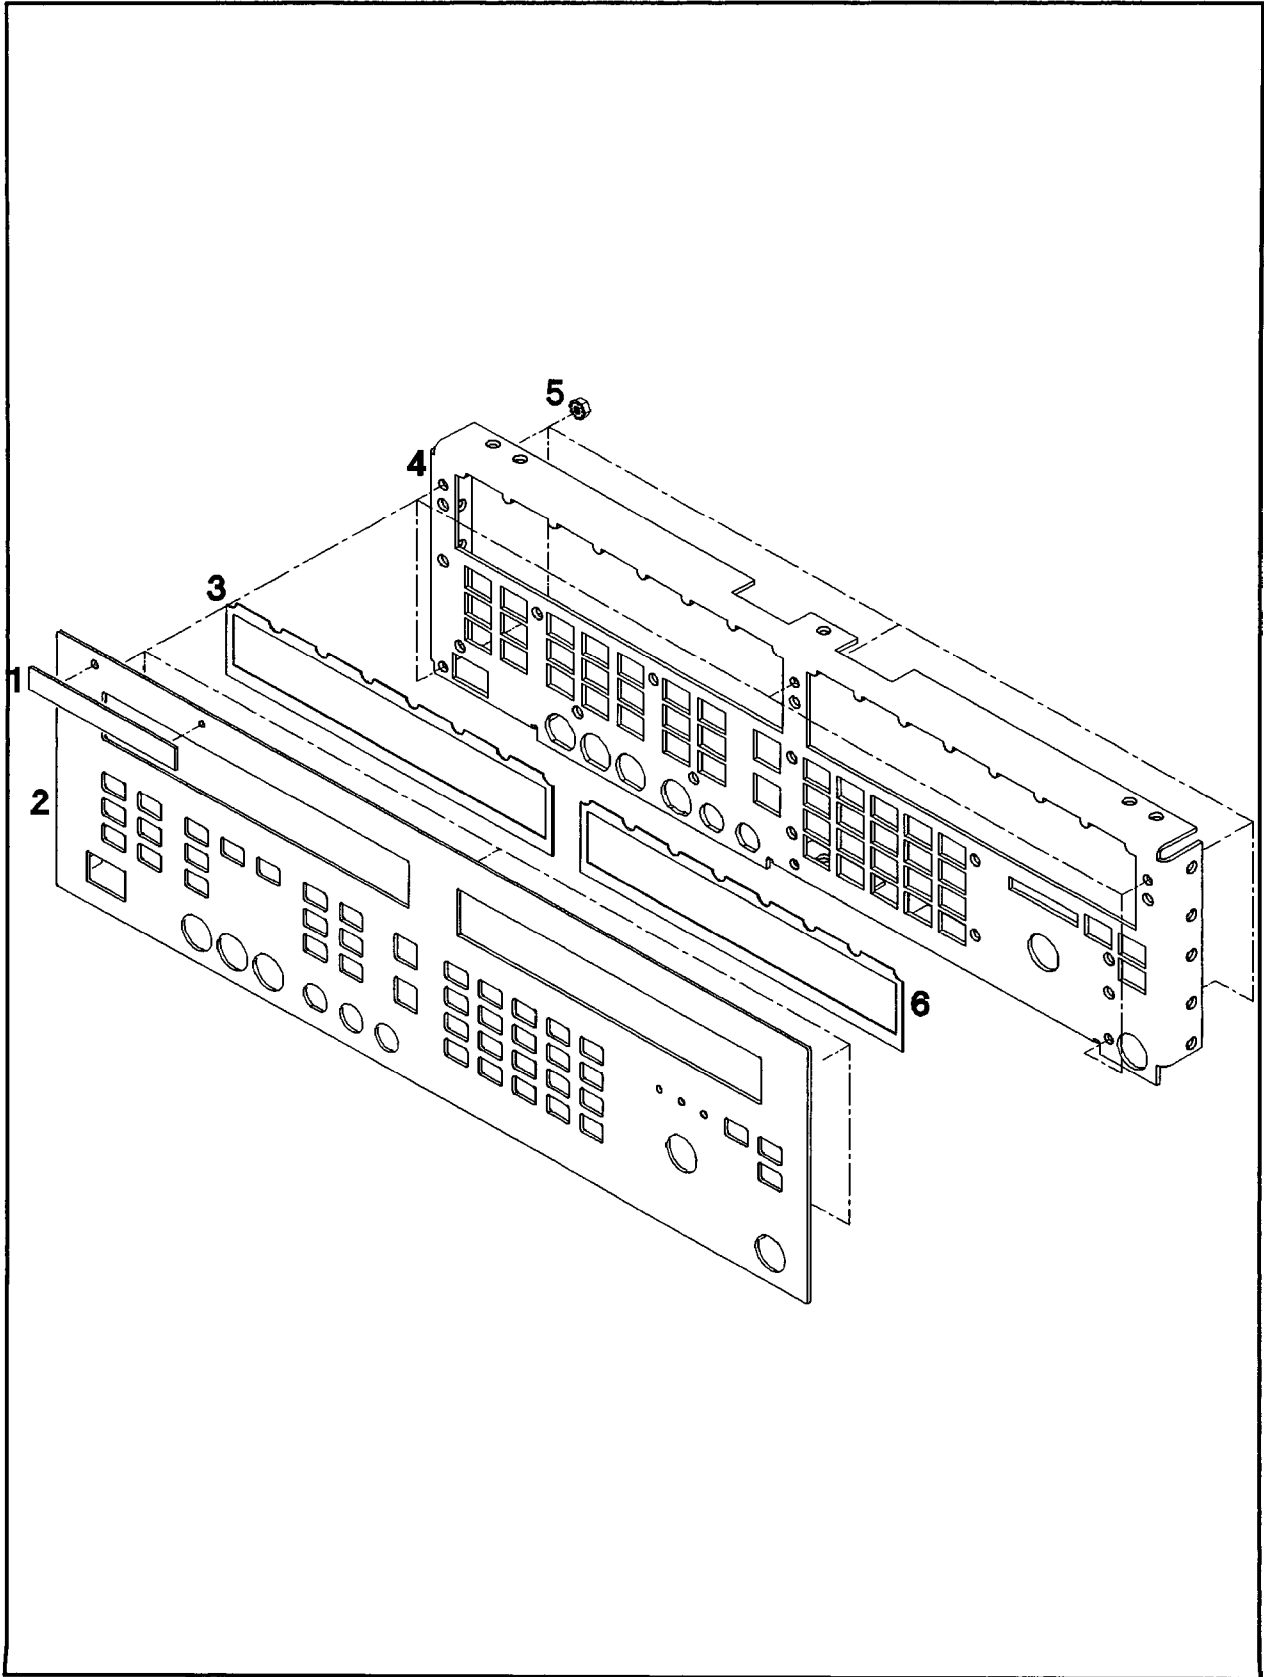

Figure 4-10. Front Dress Panel Illustrated Parts Breakdown
**Table 4-12. Illustrated Replaceable Parts (Figure 4-10)**